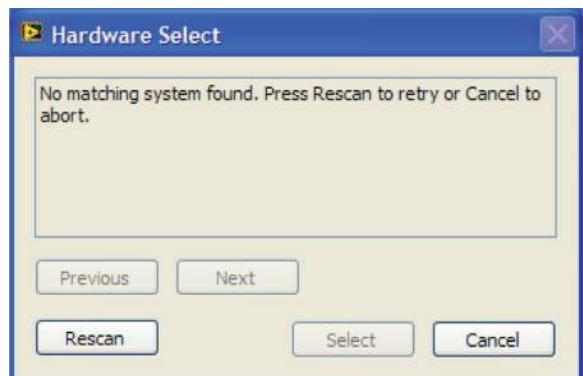

Figure 3. Pop-Up Window Error
2. If the **EVAL-SDP-CB1Z** board is not connected to the USB port when the software is launched, a connectivity error displays (see Figure 3). Simply connect the EVAL-CN0304-SDZ evaluation board to the USB port of the PC, wait a few seconds, click **Rescan**, and follow the instructions.